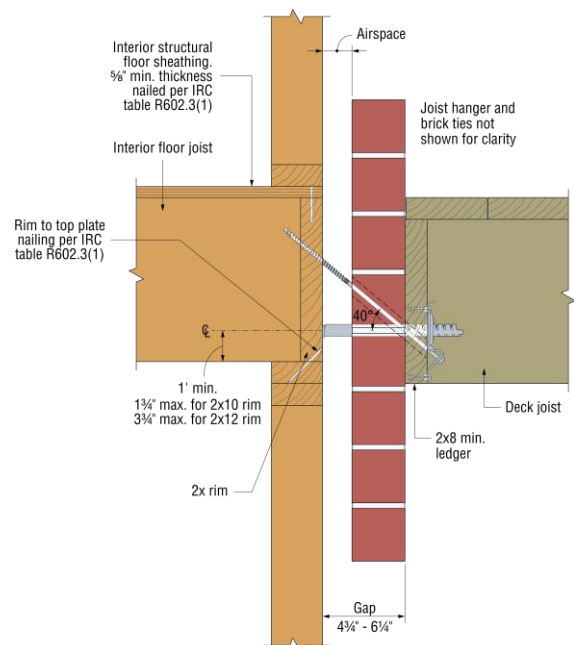

Figure 1
Table 1 provides the maximum on-center spacing for the BVLZ when the interior structural framing meets IRC requirements. See Figure 1 below the table for additional information on IRC requirements. Maximum on-center spacing of the BVLZ is listed. Decrease the on-center spacing when necessary to accommodate deck joist spacing.
1. See Figure 1 for minimum framing and IRC fastening requirements.